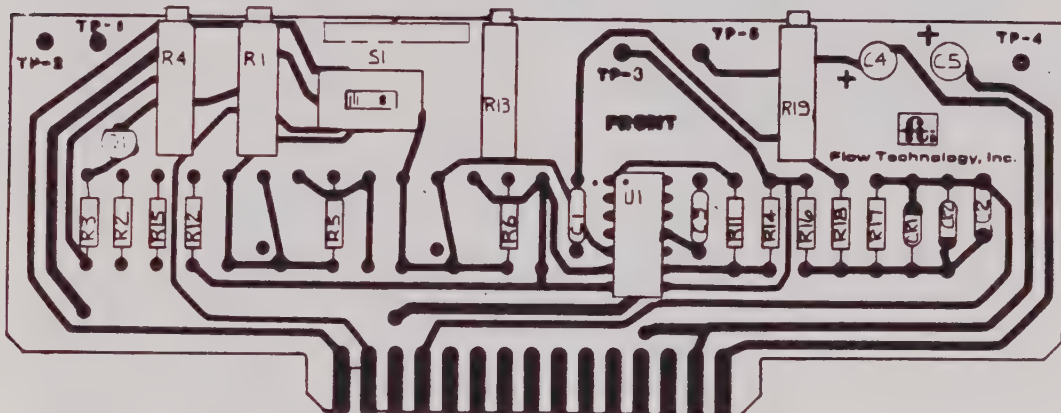

FIGURE 8. PRE-AMPLIFIER MODULE (02-82540)
1. Magnetic Transducer - Input (Figure 8)